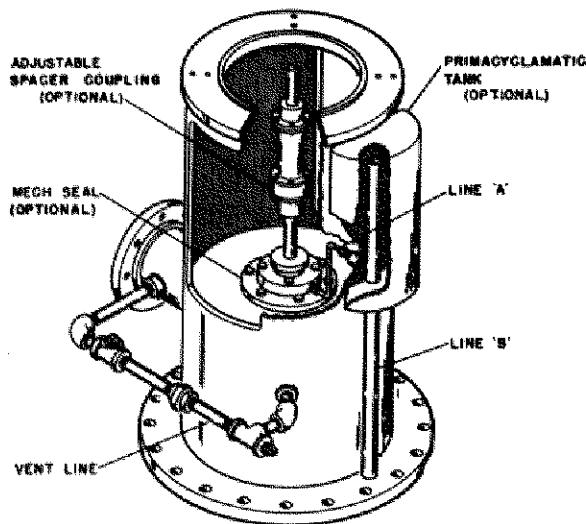

FIGURE 7-1. HIGH PROFILE HEAD
There are two configurations of discharge heads. The discharge head shown in Figure 5-1 is a low profile head, a high profile head is shown in Figure 7-1. The high profile head may be fabricated with a Goulds primacyclamatic tank welded on. Install the discharge head as follows:
When provided, install tubing connecting primacyclamatic tank to mechanical seal. (See Figure 7-1.)
A. Fluid under discharge pressure flows through bearing clearance, and lubricates seal face, or stuffing box. Fluid bypasses through tapped hole in seal gland to line "A". (See Figure 7-1.)
10-5. HIGH PROFILE DISCHARGE HEAD. (See Figure 7-1.) The high profile head may be used in conjunction with a hollow shaft driver, coupling, stuffing box, mechanical seal, or primacyclamatic tank. Primacyclamatic tank supplies temporary lubrication to mechanical seal, or stuffing box during priming and stripping operations.